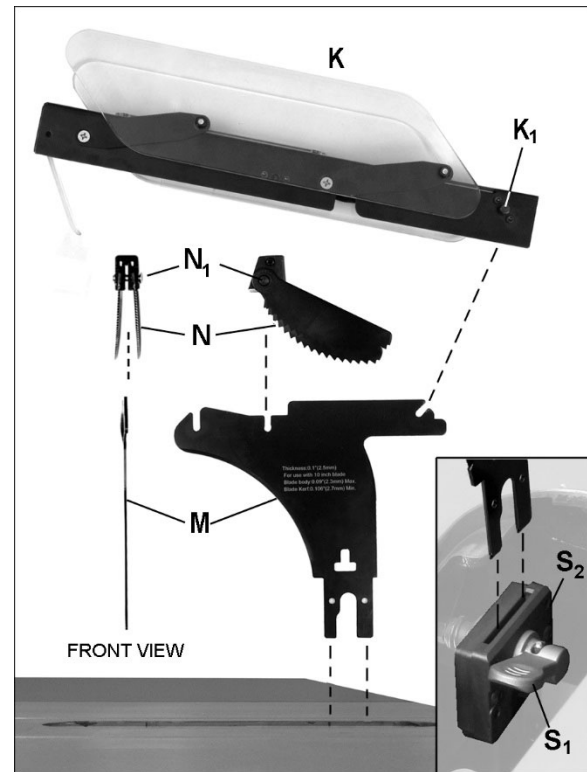

Figure 6-10: installing guard assembly
See Figure 6-10.
2. Position anti-kickback pawl assembly (N, Figure 6-10) so that angled side of pawl block faces toward front of saw, as shown.
3. Lower pawl assembly onto center notch of riving knife, with pawls straddling knife. Push and hold button on pawl block (N1, Figure 6-10), and push pawl block down until it securely engages in notch.